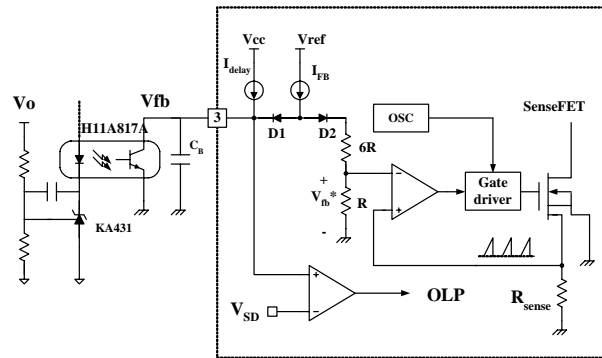

Figure 5. Pulse-Width Modulation (PWM) Circuit
2. Feedback Control: FPS employs current mode control, as shown in Figure 5. An opto-coupler (such as the H11A817A) and shunt regulator (such as the KA431) are typically used to implement the feedback network. Comparing the feedback voltage with the voltage across the R_{sense} resistor makes it possible to control the switching duty cycle. When the reference pin voltage of the shunt regulator exceeds the internal reference voltage of 2.5V, the opto-coupler LED current increases, pulling down the feedback voltage and reducing the duty cycle. This event typically occurs when the input voltage is increased or the output load is decreased.
2.1 Pulse-by-Pulse Current Limit: Because current mode control is employed, the peak current through the SenseFET is limited by the inverting input of PWM comparator (V_{fb}^*), as shown in Figure 5. Assuming that the 225 μ A current source flows only through the internal resistor ($6R + R = 11 \text{ k}\Omega$), the cathode voltage of diode D2 is about 2.5V. Since D1 is blocked when the feedback voltage (V_{fb}) exceeds 2.5V, the maximum voltage of the cathode of D2 is clamped at this voltage, thus clamping V_{fb}^* . Therefore, the peak value of the current through the SenseFET is limited.